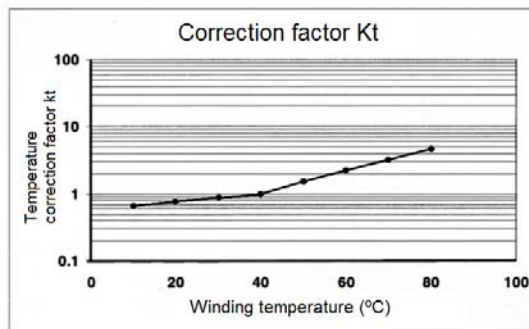

Figure 4.3: Insulation resistance correction factor due to temperature
The insulation resistance measured on the windings shall be converted to 40 ° C using the correction factor provided in Figure 4.3 (IEEE43 standard) and applying the following formula:
- Kt = Insulation resistance correction factor as a function of temperature, as shown in Figure 4.3,
The values used to generate the curve of Figure 4.3 are shown in Table 4.2.